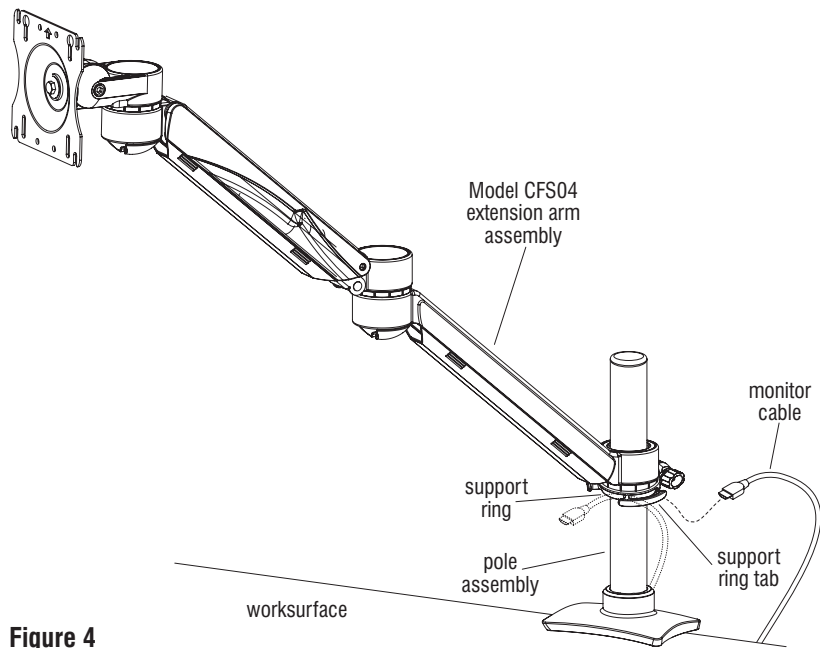

Figure 4
8. Insert monitor cables through support ring tabs (Figure 4).